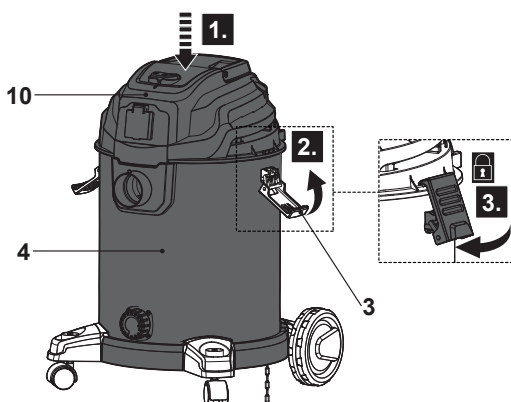

Fig. 11
- > Place the motor unit (10) with foam sleeve (22) onto the tank (4) and secure it with the plastic clasps (3) (Fig. 11). Ensure the motor unit sits properly on the tank and the connection is properly sealed.